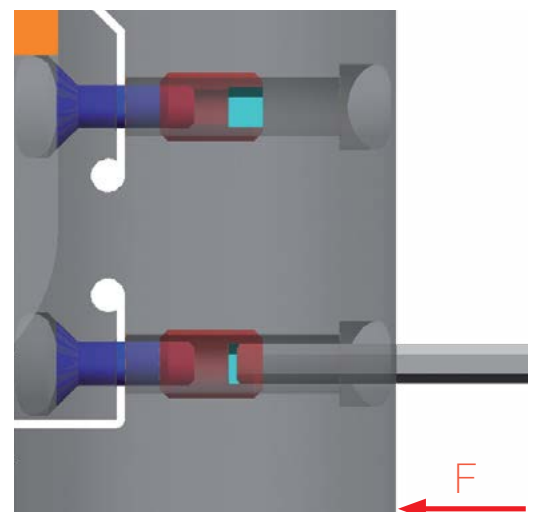

FIG. 2:
2. Then via adjusting screw 2 reset the diameter, consciously set too large, play-free to the required setting dimension of the diameter (see FIG. 2 and FIG. 3). This "locks" the entire system.